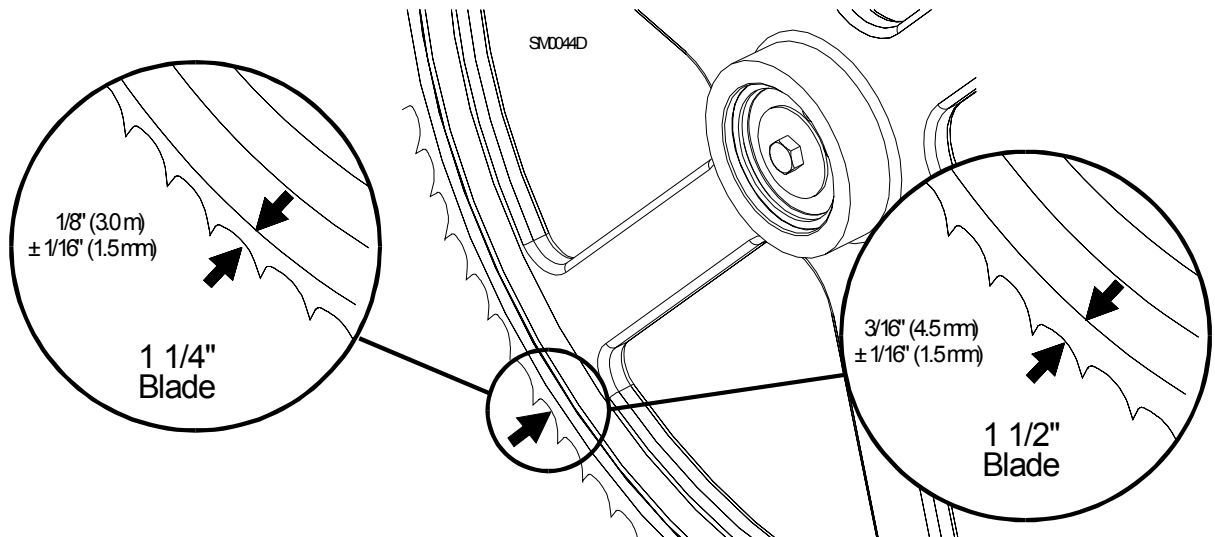

FIG. 5-2
**See Figure 5-2.** The blade wheels should be adjusted so that the gullet of 1 1/4" blades ride 1/8" (3 mm) out from the front edge of the wheels ( $\pm 1/16$  [1.5 mm]). The gullet of 1 1/2" blades should ride 3/16" (4.5 mm) from the front edge of the wheels ( $\pm 1/16$